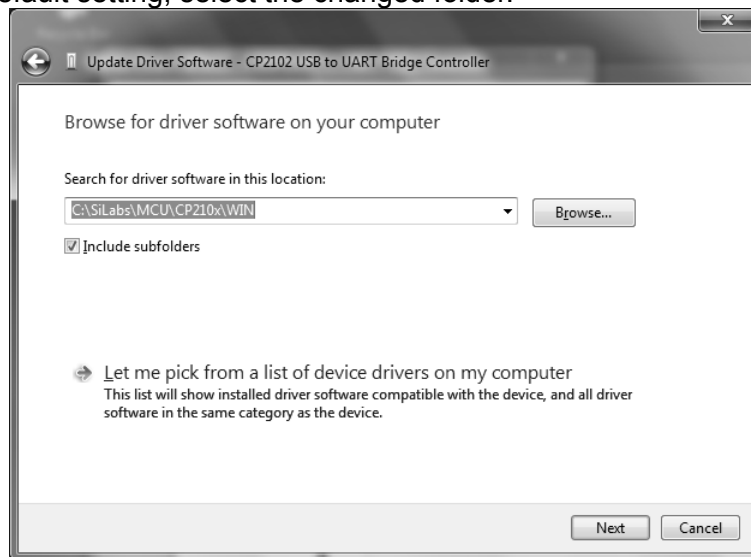

Fig. 64 Update Driver Software
(14) The screen shown in Fig.64 appears. Select "Search for driver software in this location:" and input "**C: \SiLabs\MCU\CP210x\WIN**" in the blank directly or click **Browse** to select the folder. Also Check the box next to "**Include subfolders**". If you have installed the driver in a folder different from default setting, select the changed folder.